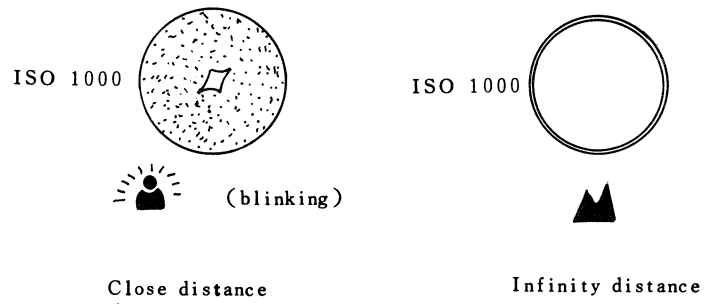

Fig 61
- 2) After the flash fully charged (Charging Indicator "  " is in off position), the focusing mark "  " blink in the viewfinder with pressing the Shutter Release Button halfway, keep such condition, and press the button all the way down. Check aperture from film rail side with light of Flash as shown in (Fig 61).